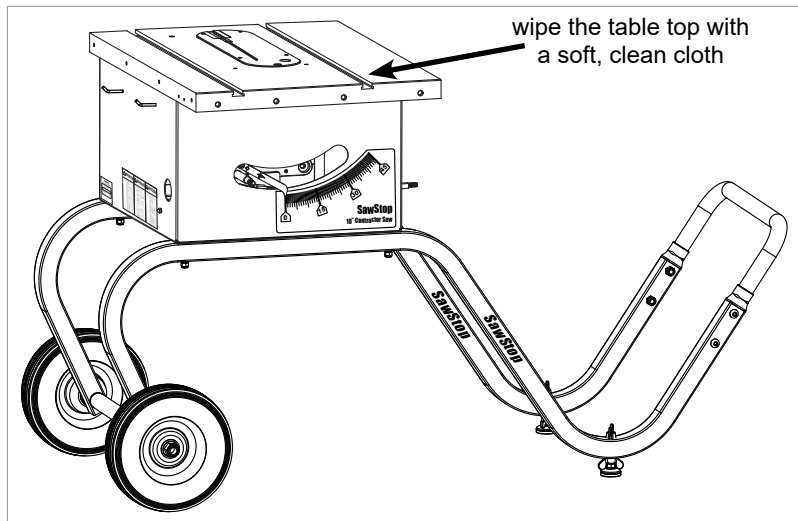

Fig. 12
12. If your saw is new, remove the plastic covering from the cast iron table top and remove the yellow label from the top of the table insert. Wipe the oil off the table top with a soft, clean cloth (see Fig. 12). The table top is shipped with a coating of oil to prevent the cast iron from rusting.